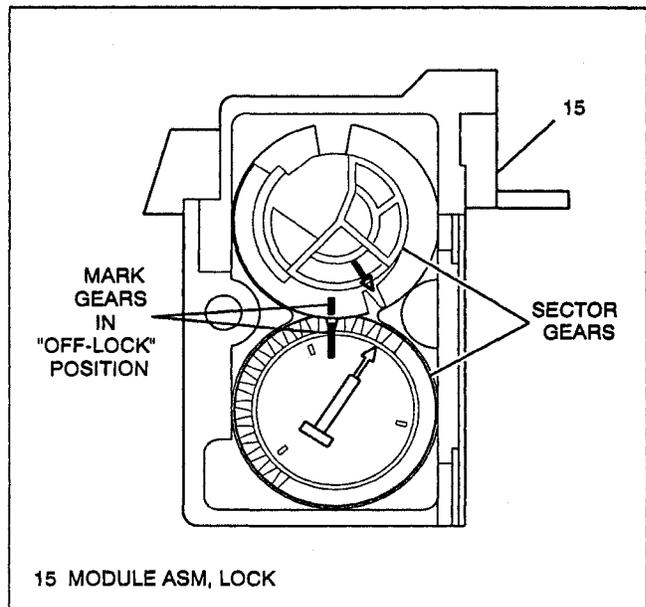

Figure 11 - Sector Gear Timing Position (OFF-LOCK)
- Mark two sector gears at "OFF-LOCK" position to ensure proper reassembly. Failure to assemble sector gears properly will cause lock cylinder (17) and ignition switch (19) to improperly timed. (See Figure 11 for proper timing)
- 16.. Remove both sector gears (See Figure 11).
1. Align marks made on sector gears and install sector gears and backing plate to lock module assembly (15). (See Figure 11 for proper timing of gears)
2. Steering column lock cylinder set (17) to lock module assembly (15).
- A. Ensure sector in lock module assembly (15) is in "OFF-LOCK" position. (See Figure 11)
- B. Key installed in lock cylinder (17) and in "OFF-LOCK" position.
- C. Line up locking tab positioning with slots in lock module assembly (15) and push cylinder (17) into position.
3. Lock module assembly (15).
- Push lock bolt (11) into steering column housing assembly (26) until flush.
- Align lock module assembly (15) with housing assembly (26) and install.
4. Three pan head tapping screws (13).
- Tighten screws (13) to 6.0 N·m (53 lb.in.).
23. Shift lever seal (16) and multifunction lever seal into position.
24. Steering column lock cylinder set (17) to lock module assembly (15).
- A. Ensure sector in lock module assembly (15) is in "RUN" position. (See Figure 11)
- B. Key installed in lock cylinder (17) and in "RUN" position.
- C. Line up locking tab and positioning tab with slots in lock module assembly (15) and push cylinder (17) into position.